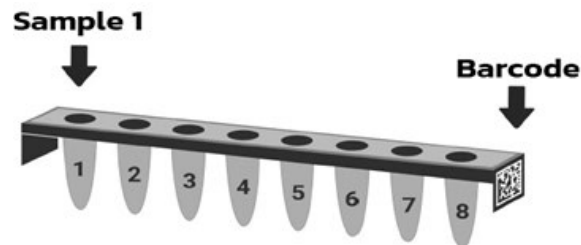

Figure 6. Required placement of samples in the Sample Input Strip
**NOTE:** The samples must be placed in the Magnis NGS Prep System device as shown in Figure 6, with Sample 1 loaded in the well located farthest from the barcode.